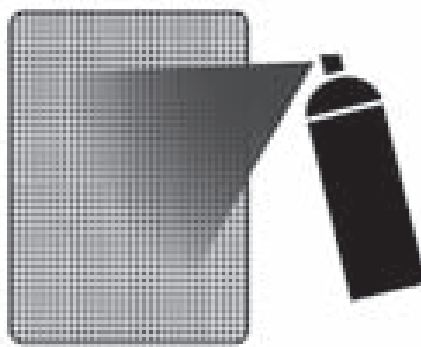

Figure 9
3. After removing the grille by carefully hooking it with a bent paper clip and pulling it gently away from the frame, spray on two thin coats of finish color. *[Figure 9]*